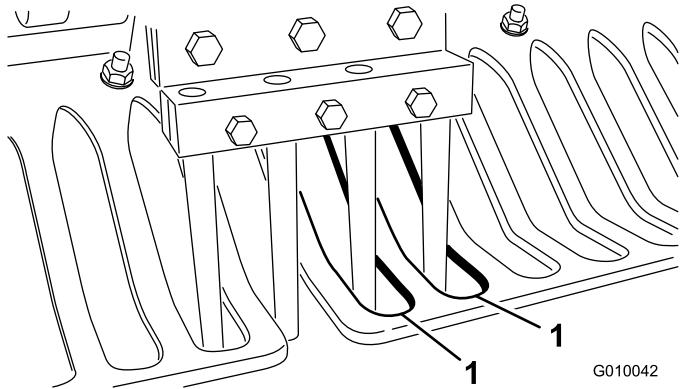

Figure 26
- Check that the tines line up with the center of the gaps in the turf guards (Figure 26). Adjust the turf guards as required and tighten the nuts.